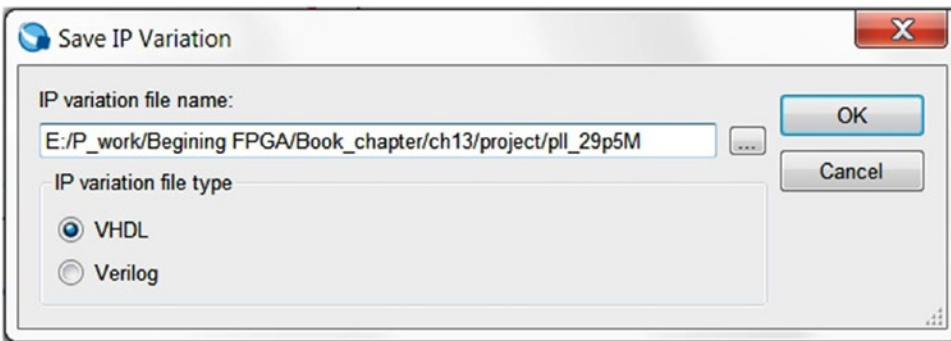
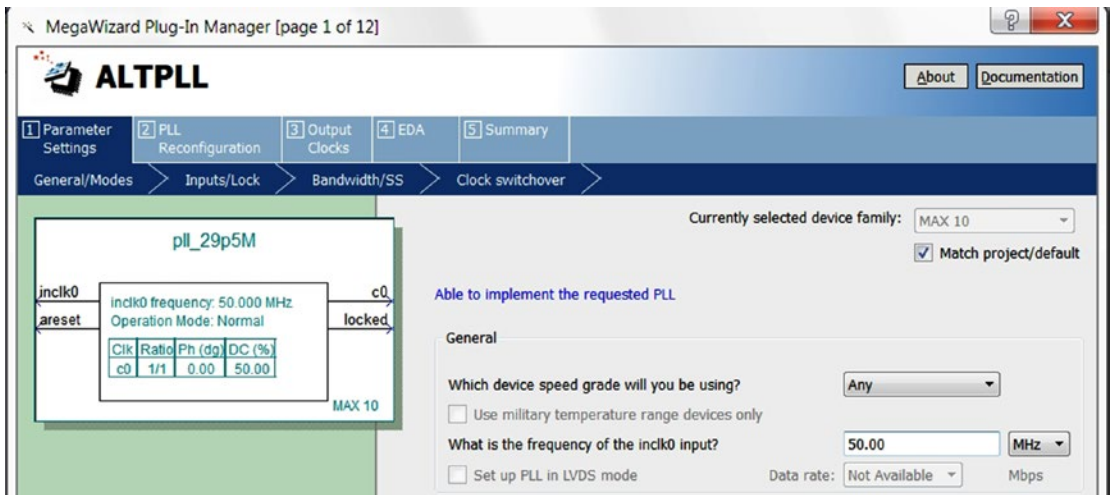

Figure 13-18. Name the PLL `pll_29p5M.vhd`
Figure 13-19. Set the inclk0 input to 50.00 MHz
Give the PLL the name `pll_29p5M` (see Figure 13-18) and select VHDL. In the MegaWizard of the PLL (Figure 13-19), execute the following steps
1. In the first tab (General/Mode), set the `inclk0` equal to 50 MHz (Figure 13-19).